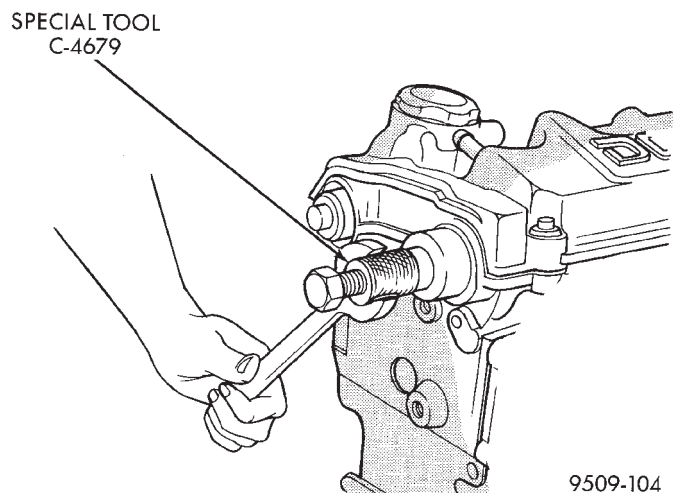

Fig. 62 Camshaft Oil Seal—Removal With C-4679-A
(3) Remove camshaft seal using Special Tool C-4679-A (Fig. 62).